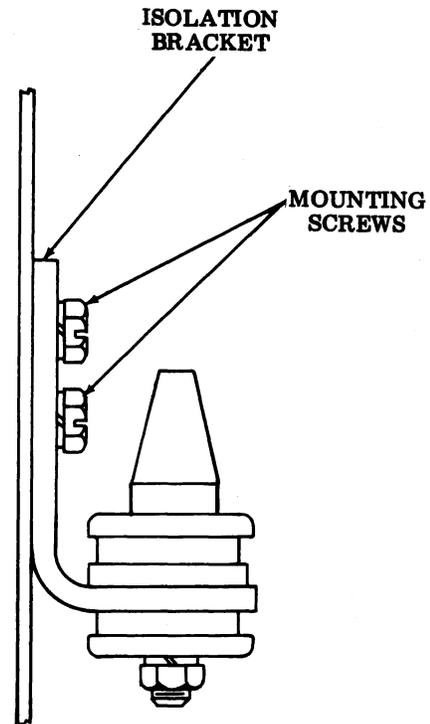

Figure 20 - Isolation Bracket
4.27 **Isolation Bracket Adjustment:** The four isolation assembly brackets (Figure 20) are slotted to provide the correct tape exit level for either laminated RT cabinet top or the painted cabinet top. With the mounting screws loosened, locate all four brackets as high as they will go for the laminated top and as low as they will go for the painted top. Tighten all eight mounting screws.